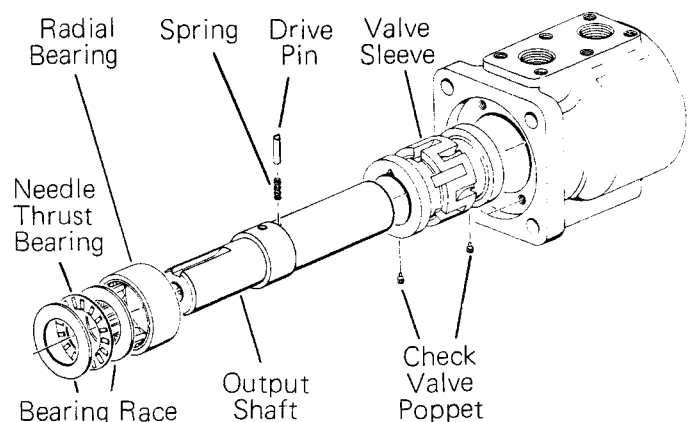

Figure 9
- 20 Remove 2 check valve poppets, see Fig. 9.